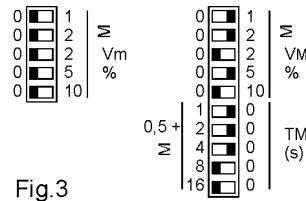

Fig.3
Le regolazioni delle soglie e del tempo di ritardo all'intervento avvengono a mezzo di un sistema discreto, con elevata risoluzione, mediante interruttori dip-switches situati all'interno delle due finestrelle del pannello frontale (fig.3).
The regulation of the set points and of the delay timers are made by means of a discrete system at high resolution using the dip-switches located inside the two small windows of the front panel (fig.3).
In the small window on the right there are the switches for the regulation of the max set point (VM) and of the delay timer. (fig.3)
For setting VM at 8% of the nominal voltage, and the delay timer at 24,5 sec, activate inside the small window on the right the following switches: (fig.3)